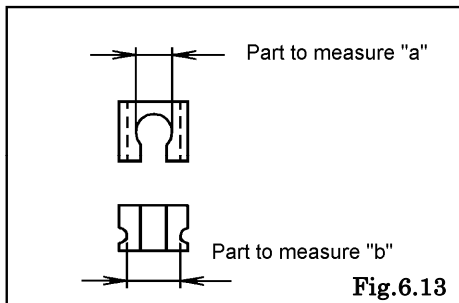

Fig.6.13
- Interlocking bush [Fig.6.13]